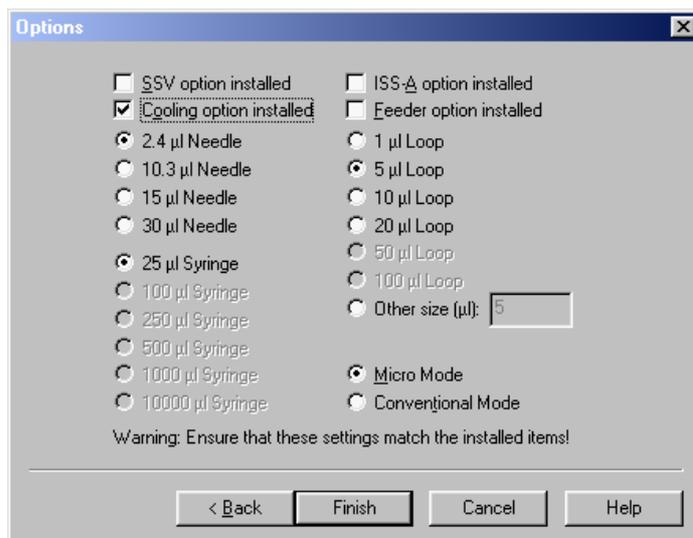

FIGURE 2-21 FAMOS Options Box
d) Setup the *Options* box according to the current configuration of the FAMOS to be installed (FIGURE 2-21). Select **Micro Mode** if a 2.4 µL (fused silica) needle is installed and **Conventional Mode** if a 15 µL needle is installed.